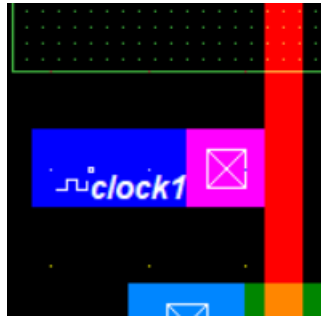

Figure 2
- Add Metal1 with a Metal Contact to the first Input Poly Input. See Figure 2 below
- Add Metal1 with a Metal Contact to the first Input Poly Input. See Figure 2
d. Add Metal1 with a Metal Contact to the first Input Poly Input as shown in Figure 2.